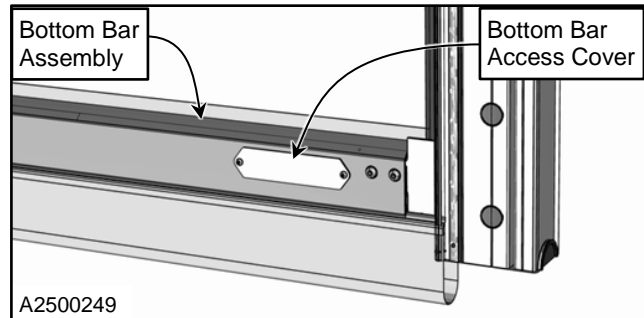

Figure 37
4. If the door does not operate properly & reverse, perform a "Reversing Edge Switch Air Bleed" and/or a "Reversing Edge Switch Sensitivity" check & adjustment as necessary (See page(s) 18 & 19). The switch is located in the bottom bar on the opposite side of the door motor. (See Figure 37) Also check the rubber reversing edge for damage if necessary.
1. The reversing edge switch is located inside the bottom bar assembly. To inspect or adjust the switch, remove the access cover from the face of the bottom bar assembly. (See Figure 37)